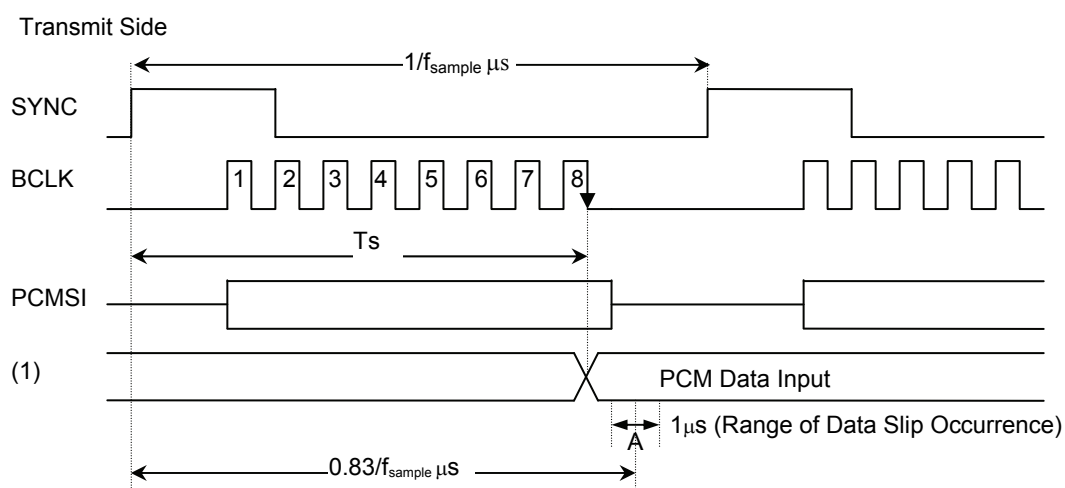

Figure 6
If T_s : PCM signal output (1) after serial/parallel conversion and A: internal latch timing in Figure 6 overlap, a data slip occurs.
2. When the ADPCM signal (IR) is captured